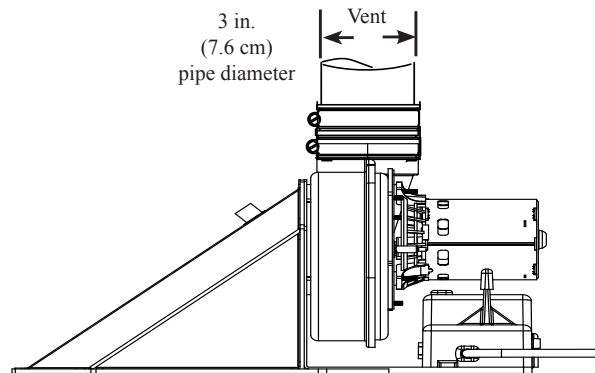

Figure 1
2. For vent terminal use the 3 in. diameter, Schedule 40, PVC, 90°, 1/4 standard bend elbow supplied with the appliance (See Figure 1).